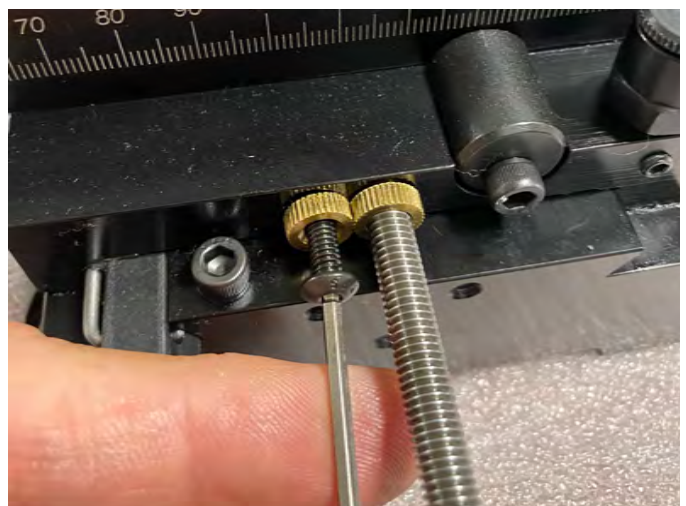

FIGURE 11—Thread the 8-32 screw into the locking collar.
L. With the locking collar and the nut knurls aligned, insert the 8-32 screw into the locking collar (see Figure 11).